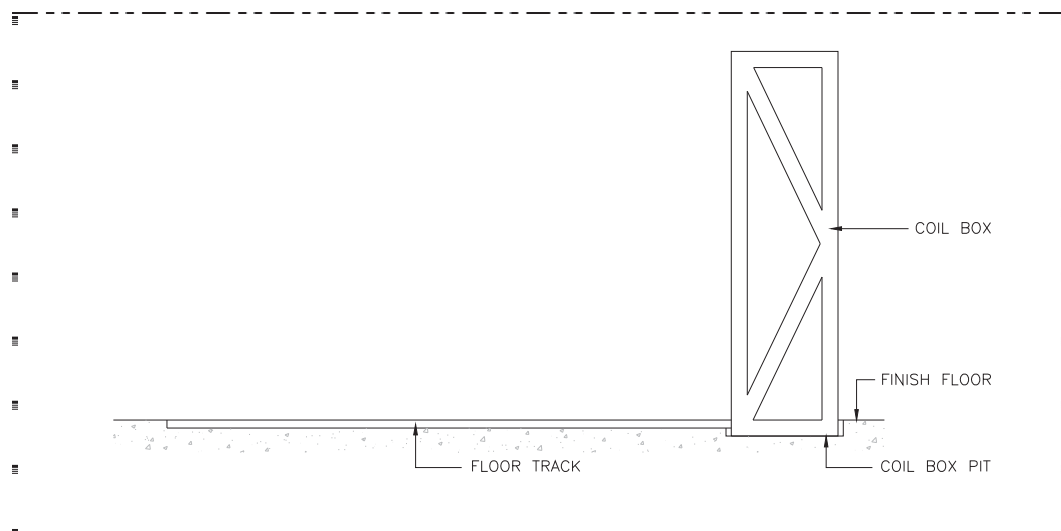

FIGURE 2 – with a floor track assembly
STEP 2 – Placement and Installation of Coil Box Assembly (Refer To Figures 2 & 3)
Optional Component Refer To As-Built Shop Drawings (Refer to Figures 2 & 5)